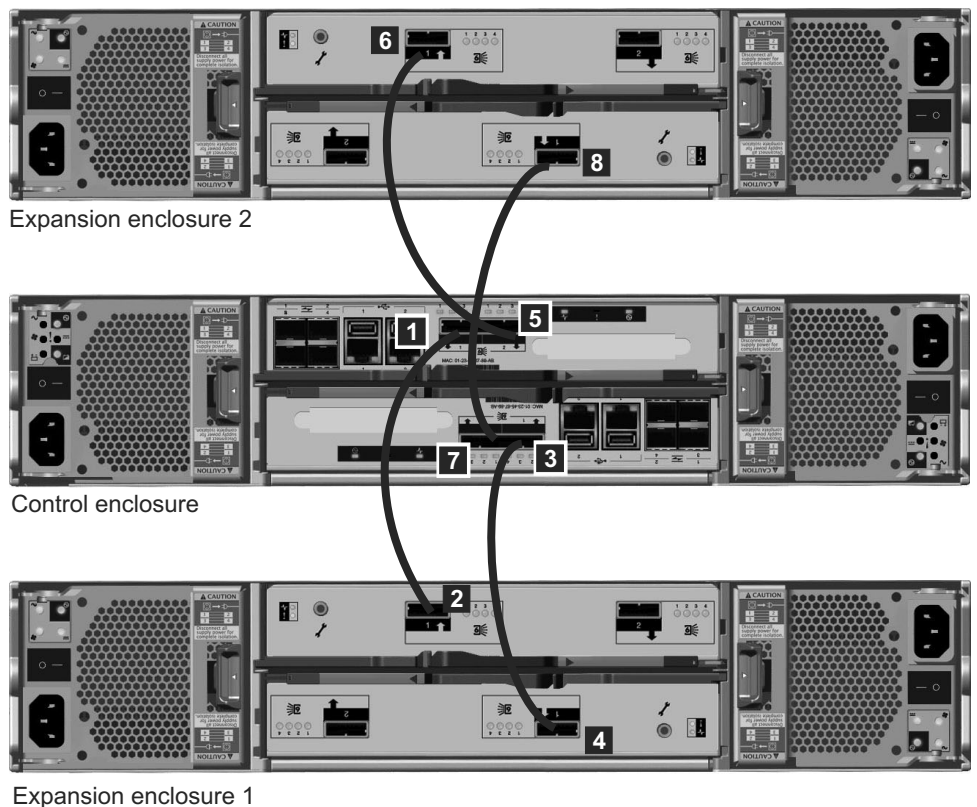

Figure 11. Adding a second expansion enclosure
- 3. Attach the SAS cables from the control enclosure to the second expansion enclosure as shown in Figure 11 on page 15. The second expansion enclosure is above the control enclosure.